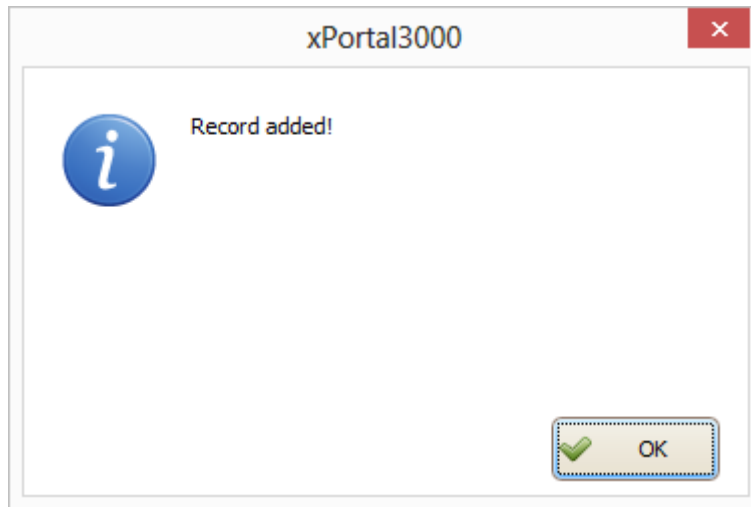

Figure 74 - Record Added
18. A "Record Added!" message will be shown. Click OK to continue (Refer **Figure 74**).